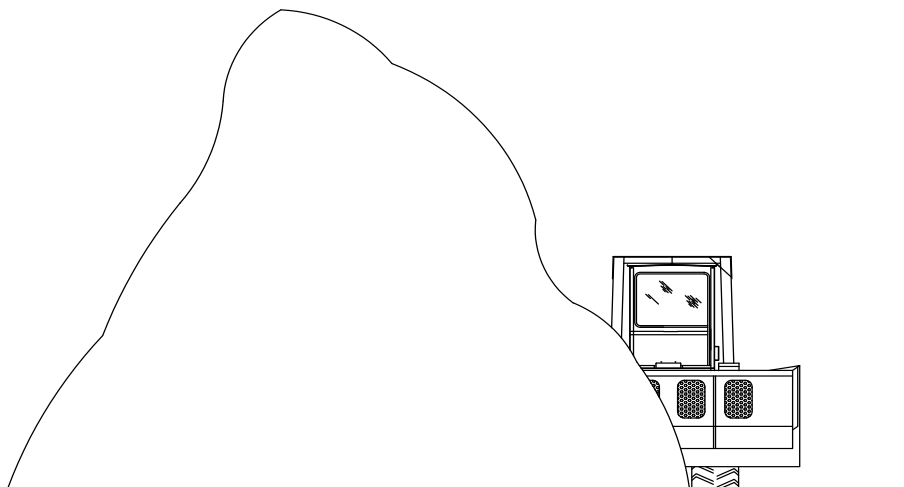

Fig. 5-11
2. Do not cut into a cone with the bucket too high. If you enter the pile with the bucket too high, the wheel opposite the pile will be much lower making an uneven cut. Only cut into the cone with the bucket down and level. See Fig. 5-11